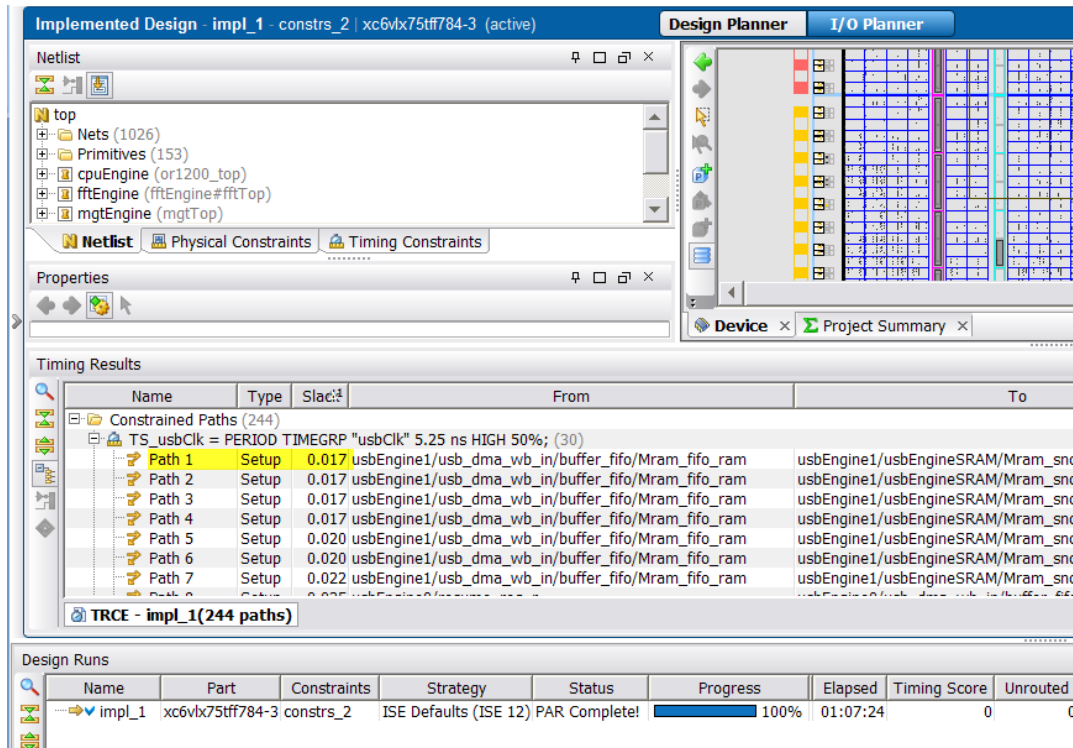

Figure 21: Verifying Successful Implementation Results
- 3-1-3. To verify the results were successful, look at the final timing score and view the detailed timing report (Figure 21).